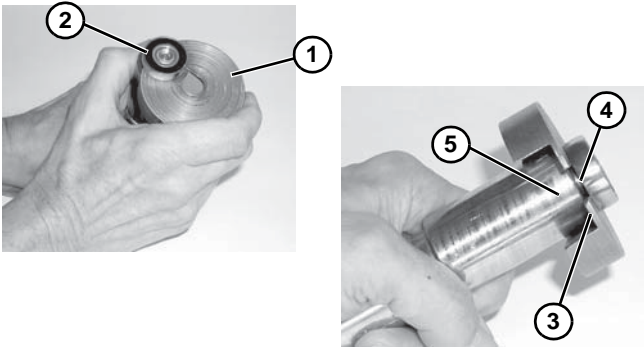

Figure 12
- Place bearing removal tool part #456063 (**Figure 12, item 1**) below bearing (**Figure 12, item 2**) with lip (**Figure 12, item 3**) located in gap (**Figure 12, item 4**) between bearing and spindle hub (**Figure 12, item 5**) as shown.